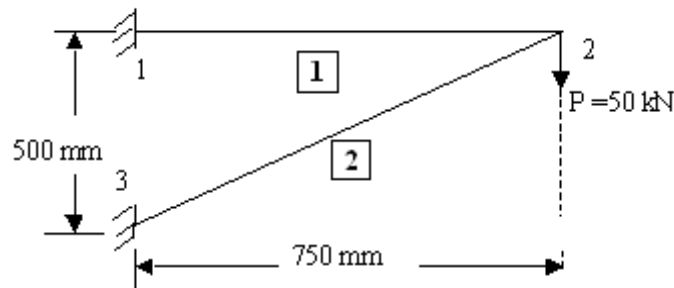

Figure 10:
6. Determine the displacements of node 2, stresses in bars 1 & 2 and reactions at fixed supports in the truss structure shown in figure 10 below, assuming points 1 and 3 to be fixed. Use $E=200$ GPa and $A=1000$ mm². [16]